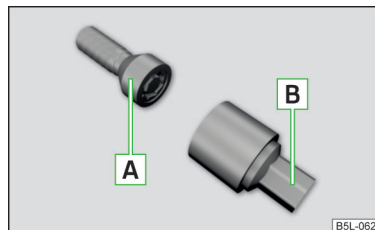

Fig. 182
The anti-theft wheel bolts protect wheels from being stolen. These can only be removed/tightened with the aid of the adapter [B] » Fig. 182.
- The adapter [B] » Fig. 182 with the toothed side all the way into the inner teeth in the head of the anti-theft wheel bolts [A] stuck.